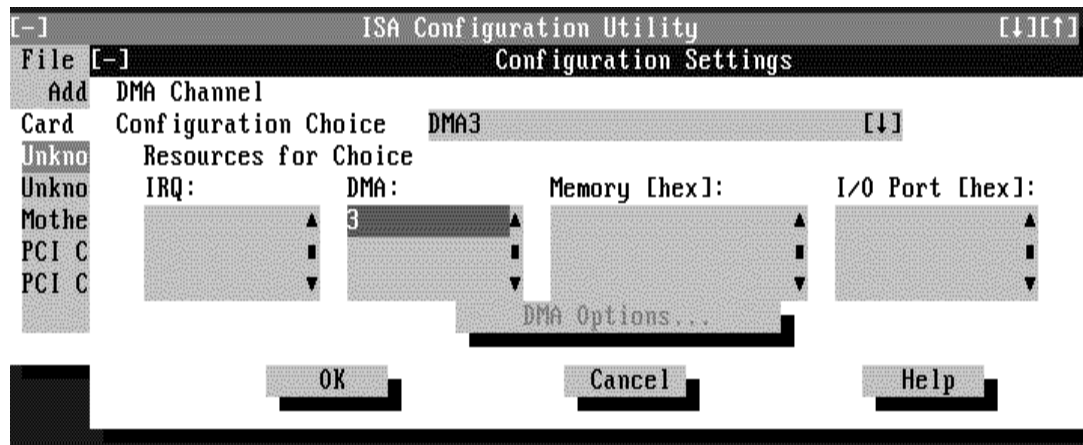

Figure 3-6. Configuration Settings Dialog Box for Assigning a DMA Channel
9. To change individual resource values for the current configuration setting, select the resource value that you want to change and click the Options button located below the resource values (see Figure 3-6).